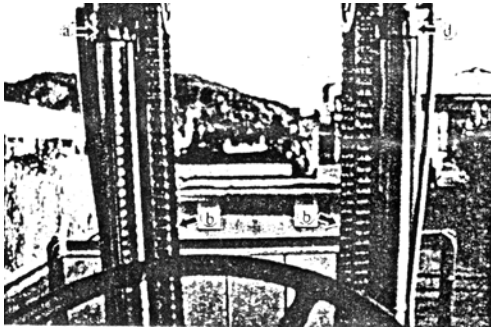

Fig.10-1
(1) Make the forks descend to the ground and adjust the lift chains to assure that the distance between the center of carriage lower rollers and the bottom of inner mast is within the range of 15-20mm.
(2) Make the mast assembly tilt backward, adjust the pulling force of lift chains and let the tightness of lift chains be equal at b point (See Fig.10-1).